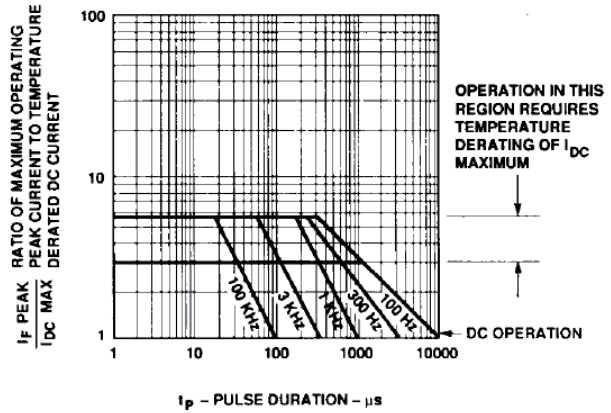

Figure 8. Maximum Tolerable Peak Current vs. Pulse Duration – Yellow.
5. See Figure 8 to establish pulsed conditions.